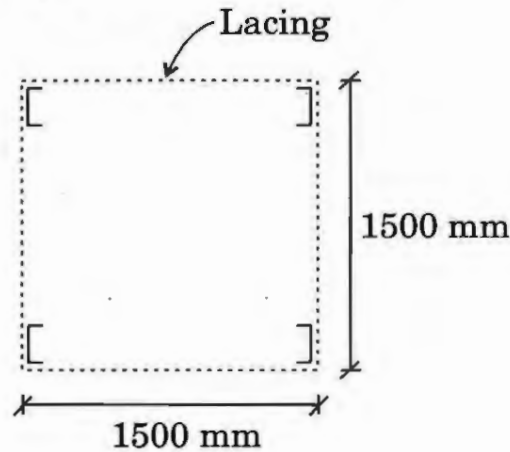

Figure 8
- Q5.** (a) A 6 m long built-up column carries an axial compressive force and consists of 4 nos. ISMC 350 sections as shown in Figure 8. A lacing is provided in each of the four planes. Explain the principle of design of lacing with the help of a neat sketch.